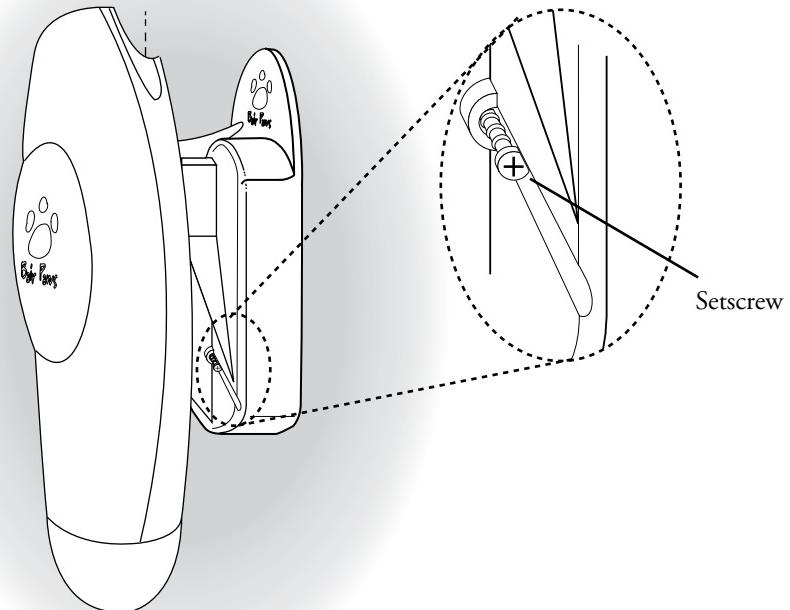

Figure 2. Side view of warming unit in the wall-mount bracket.
2. Tighten the 2 setscrews located on either side of the wall-mount bracket using a three-inch-long (or longer) small Phillips screwdriver to lock the unit in place (see Figure 2).